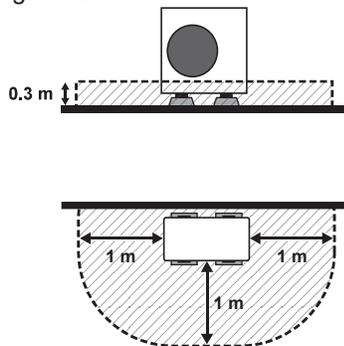

Fig. 3-3
(2) When installed in a location with 3 surfaces opened (in front of a building wall) (Fig. 3-3)